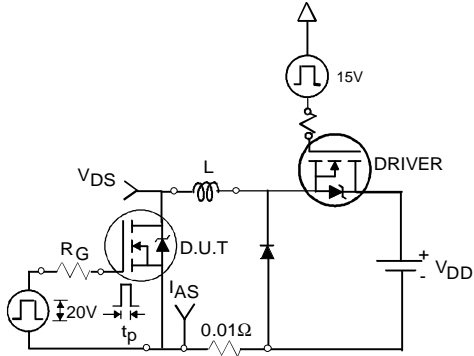

Fig 12a. Unclamped Inductive Test Circuit
3. Equation below based on circuit and waveforms shown in Figures 12a, 12b.
- ④ Pulse width $\leq 400\mu\text{s}$; duty cycle $\leq 2\%$.
- ⑤ C_{oss} eff. is a fixed capacitance that gives the same charging time as C_{oss} while V_{DS} is rising from 0 to 80% V_{DSS} .
- ⑥ Calculated continuous current based on maximum allowable junction temperature. Package limitation current is 75A.
- ⑦ Limited by T_{Jmax} , see Fig.12a, 12b, 15, 16 for typical repetitive avalanche performance.
- ⑧ This is applied to D²Pak, when mounted on 1" square PCB (FR-4 or G-10 Material). For recommended footprint and soldering techniques refer to application note #AN-994.